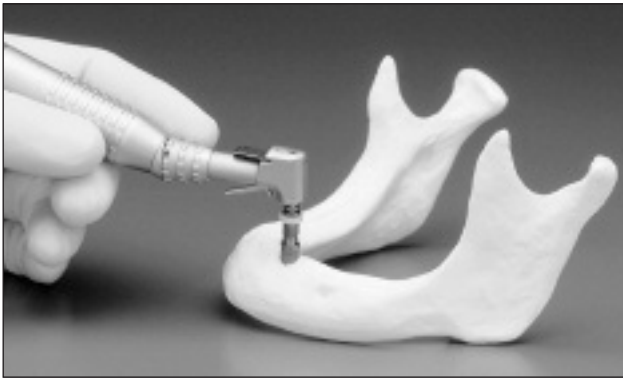

Figure 16.
- C.** The implant may be driven either manually or with the use of a Latch-Lock Driver. The Manual Mount Driver is inserted into the bottom broach of the Implant/Tap Driver Wrench so that the driver rotates freely in a clockwise direction. The Latch-Lock Mount Driver engages directly into the handpiece. The Mount Driver's male hexagon is inserted into the female hexagon of the implant driver mount. The retaining clip on the Mount Driver provides mechanical retention to the implant driver mount. To remove the implant from the vial, engage the Mount Driver to the driver mount and lift out (**Figs.14 and 15**). **Note:** The use of mount drivers without retaining clips is not recommended for use with this delivery system. Screw the implant into the prepared site using the handpiece or the Manual Driver Wrench (**Fig. 16**). The implant must be driven into the site at less than 50 rpm. This requires a contra-angle capable of low speed, high torque operation. After the implant is seated, disengage the Mount Driver from the implant driver mount by pulling up in an axial direction.